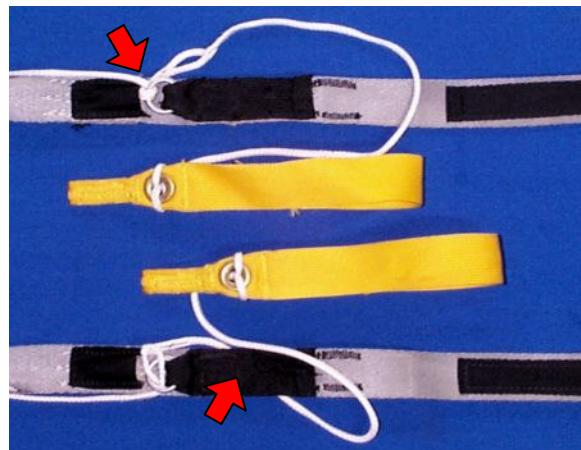

Figure 2. – Misrouted steering lines.
**Misrouted steering line** - *Figure 2* shows two examples of **misrouted steering lines**: the steering line half-hitched around the guide ring (*top*) and looped around the riser itself (*bottom*). If the brakes are set with the steering line misrouted, the jumper may experience problems controlling the canopy. Many jumpers, both experienced and novice, occasionally make these mistakes. We advise all jumpers to pay special attention to the routing of the steering lines when setting a canopy's deployment brakes.
The routing of a canopy's steering lines must be checked every time you set the deployment brakes. **The steering lines must pass straight through the guide ring on the riser and be able to move freely when the toggles are pulled.** The steering line must not be looped around the guide ring or around the riser itself as in *Figure 2*.